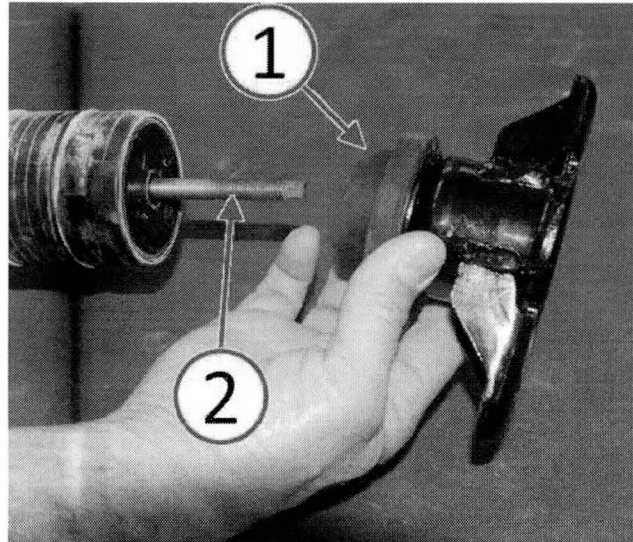

Fig. 3 Shock Upper Mount Installation
6. Install the shock absorber upper mount assembly (1) onto the shock absorber shaft (2) (Fig. 3)